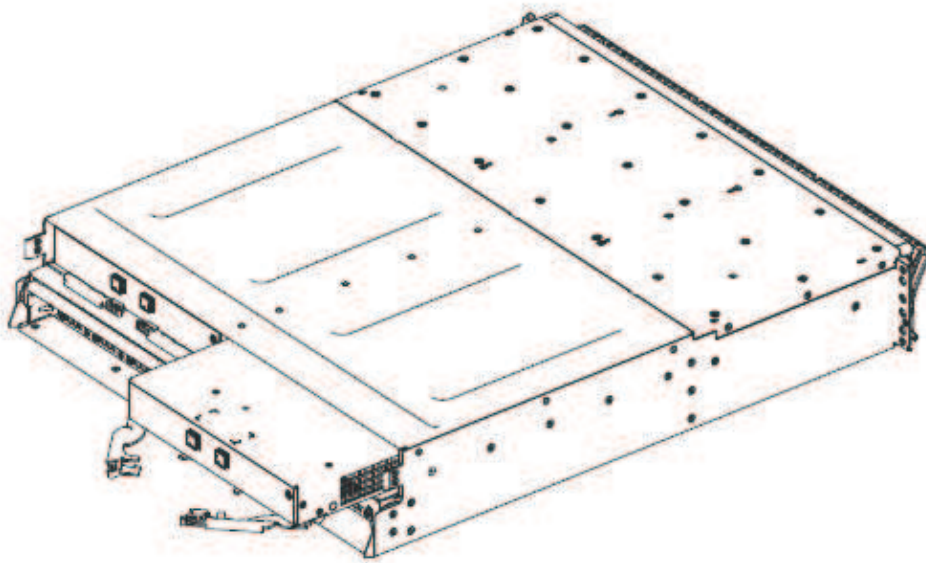

Figure 81. Removing and replacing the Storwize V7000 Gen2 expansion canister
6. Open the two release levers as shown in Figure 81 on page 300. The canister moves out of the slot approximately 0.6 cm (0.25 inch).